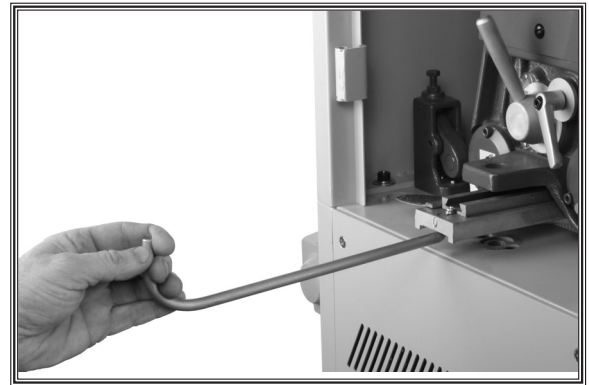

Figure 30. Removing platen.
3. Use the platen tool to remove the platen (see **Figure 30**).